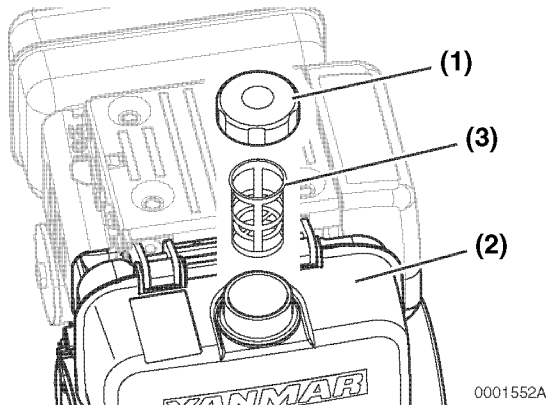

Figure 5-6
1. Clean the area around the fuel cap (Figure 5-6, (1)).
2. Remove the fuel cap from the fuel tank (Figure 5-6, (2)).
3. Lift out the inlet fuel screen (Figure 5-6, (3)).